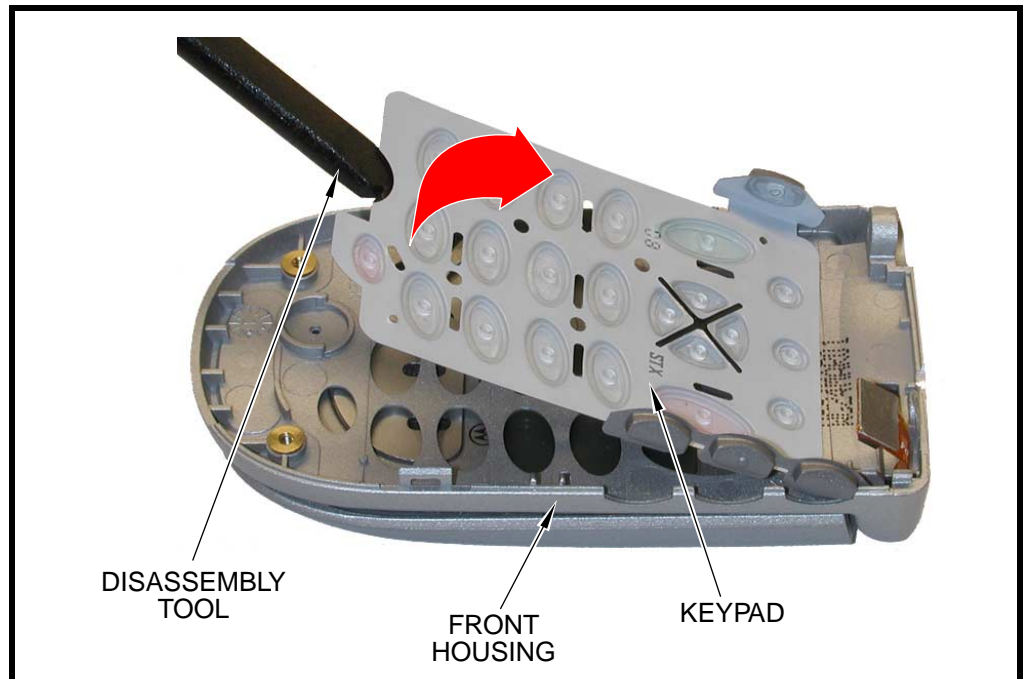

Figure 16. Removing the keypad
2. Lift the keypad from the front housing as shown in Figure 16.